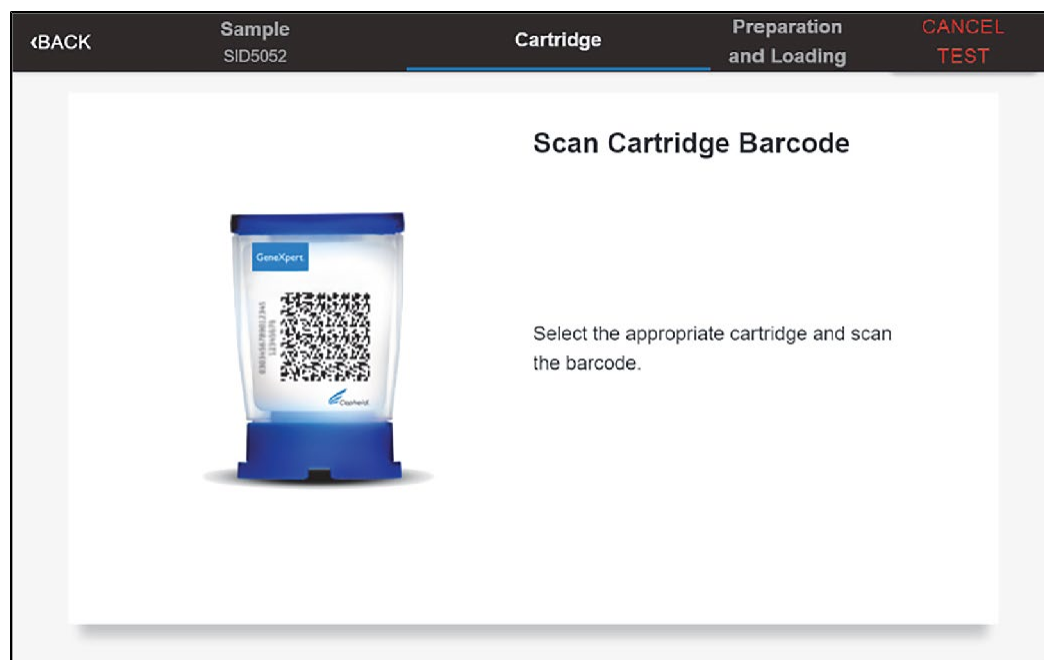

Figure 25. Scan Cartridge Barcode Screen
6. Verify the Sample ID and touch CONFIRM. The Scan Cartridge Barcode screen appears (see Figure 25).